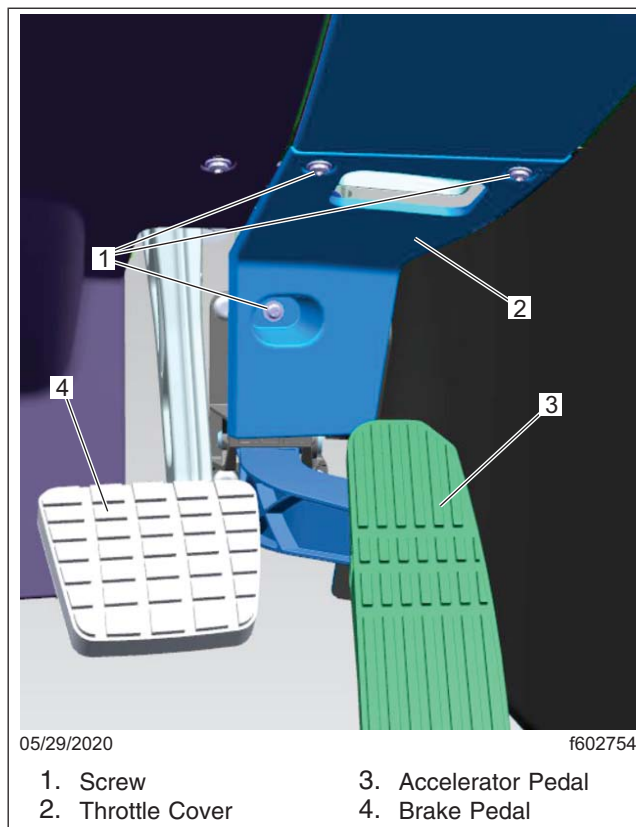

Fig. 6, Throttle Cover
- 4.1 Remove the three screws that attach the throttle cover to the dash. Pull the clip loose from the lower center dash cover. Remove the throttle cover. See Fig. 6.